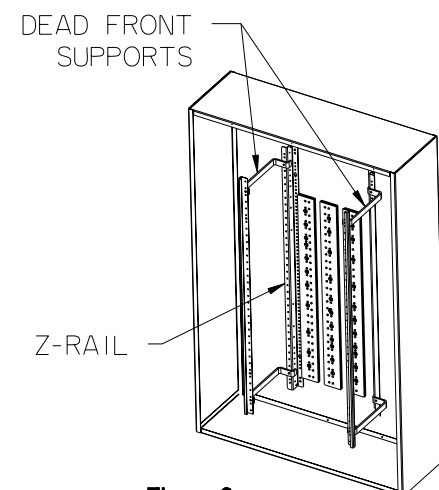
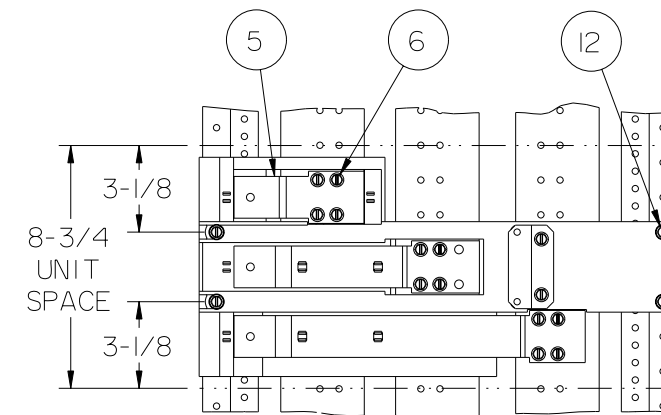

Figure 2
Figure 6
3. Reference fig. 2 - To mount the breaker, 8-3/4" of empty unit space is required. To locate the mounting position, measure from the top dead front support to the top of the empty unit space filler on the dead front. Transfer this dimension from the dead front support along the Z-rail and mark. This will be the unit space as shown on Fig. 6. After marking the Z-rail, remove the dead front.
7. Reference fig. 6 - Installing the Support Barrier assembly. Locate a 0.228" diameter hole on each Z-rail 3-1/8" down from the top of the 8-3/4" unit space selected in Step 3. Insert one 1/4-20 X 1/2" screw (item 12) through the top mounting hole at each end of the Support Barrier and into the selected holes on the Z-rails. Repeat this step and install one 1/4-20 X 1/2" screw into each of the bottom holes of the Support Barrier. Install the Short Phase Connector (item 5) by guiding the end with four holes through Support Barrier aligning the other end with the Medium Phase Connector. Insert four 1/4-20 thread forming screws (see the Section Bus Hardware Kit for the proper length) through the four 0.312" diameter holes on the Short Phase Connector and into the 0.228" diameter holes on the AØ bus and tighten. Repeat this step for mounting the Medium and Long Phase Connectors to the BØ and CØ buses respectively. Torque all hardware as specified on the rear of the deadfront.